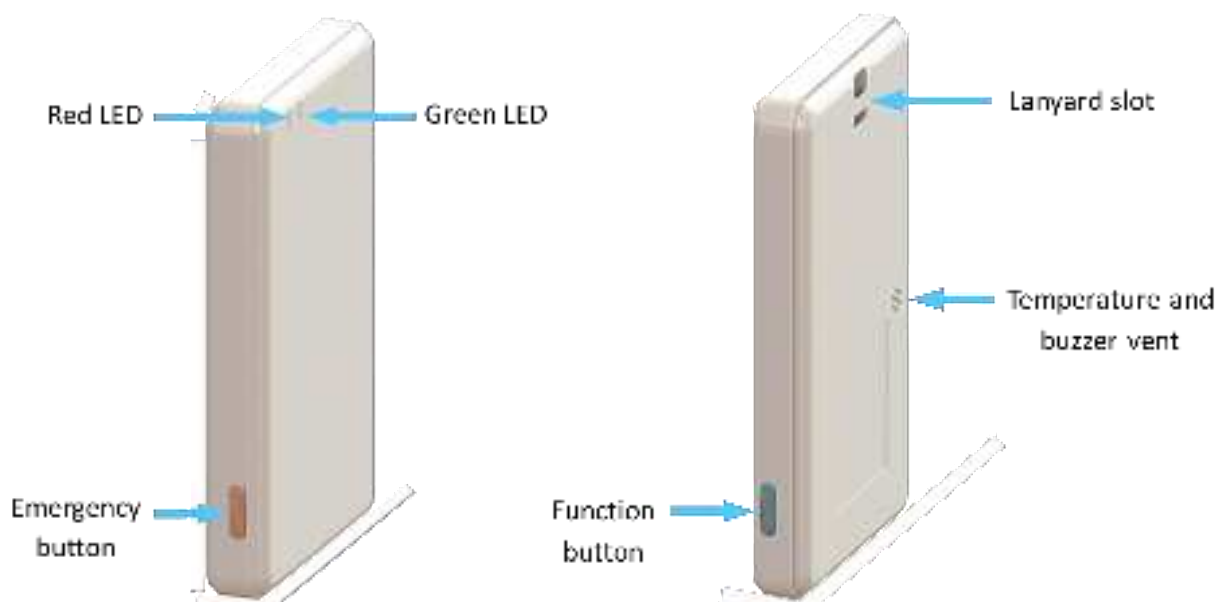

Figure 1-2: CHICKADEE Enclosure and External Interfacing
CHICKADEE enclosure is shown in Figure 1-2 and the locations of the external user interface hardware are identified. There are two buttons, the Function Button (FB) and the EMERGENCY button (EB). The Function button has three purposes and will act accordingly depending on how the button is pressed. These purposes are: